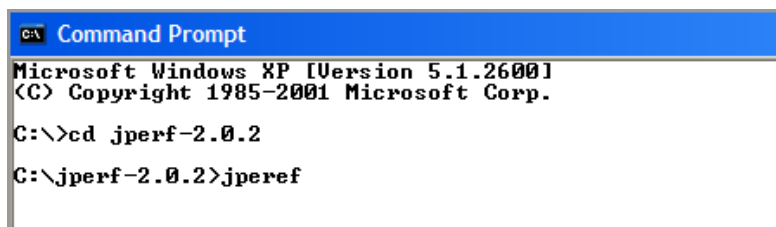

Figure 104 Jperf
1. Open a command prompt and change to the jperf-2.0.2: directory and run the Jperf application, as shown in Figure 104.